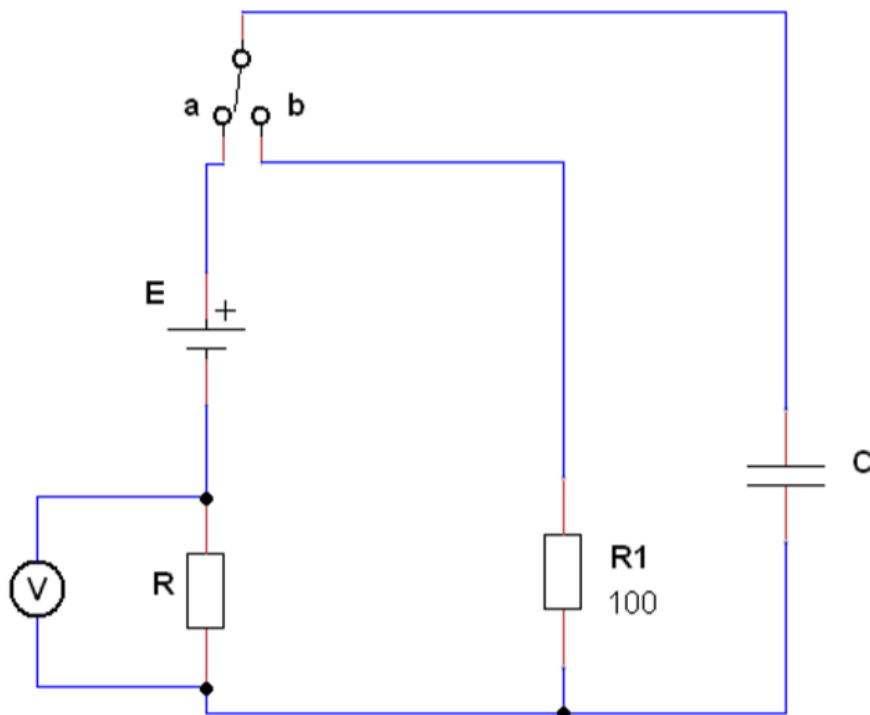

Figure 1: The scheme of the measuring system
1. Connect the system according to the diagram in Figure 1.
2. Set switch (2) in position b.
3. Turn on the power supply (1) and set it to $\epsilon = 12V$.
4. Execution the process of charging the capacitor (5): simultaneously with switching the switch (2) to position a, start the stopwatch (4) and write the voltage value from the meter (3) every 10 seconds. The experiment must be carried out by two people. Depending on the system tested, the measurement should be carried out for 150 – 300 s.
5. After completing the measurements, discharge the capacitor: switch (2) in position b. The discharge current will flow through the R_1 resistor.